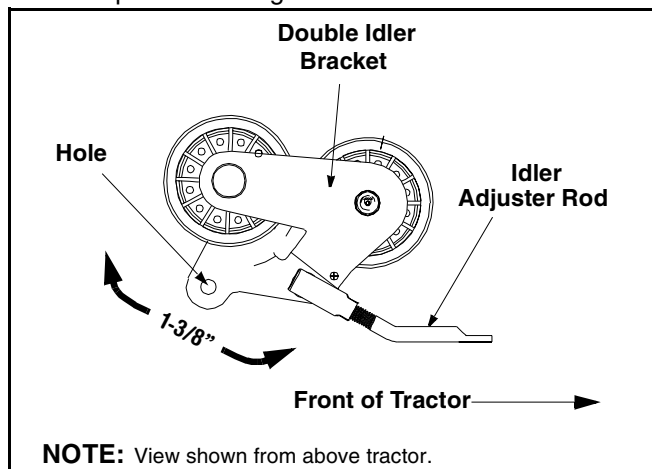

Figure 14
- Remove the drive belt by feeding it from both ends toward the front idler pulley on the double-idler bracket. See Figure 14.
The drive pedal is properly adjusted when the hole found in the double-idler bracket has approximately 1-3/8" of travel with ten pounds of pressure applied to the drive pedal. See Figure 14.